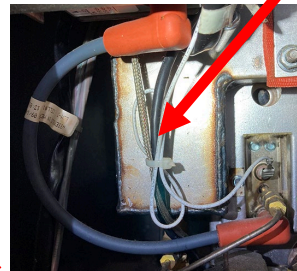

Figure 65
66. Use zip ties to secure the wires (see Figure 65).